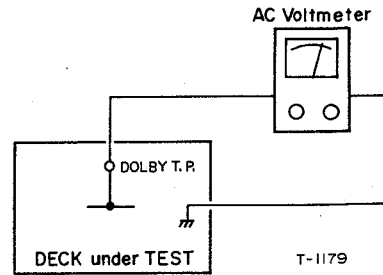

Fig. 6-4 Connection (1)
2. Adjust R10/R20 controls for 580 mV ( $-2.5$  dB) on the AC Voltmeter connected to the DOLBY test points, as shown in Fig. 6-4.